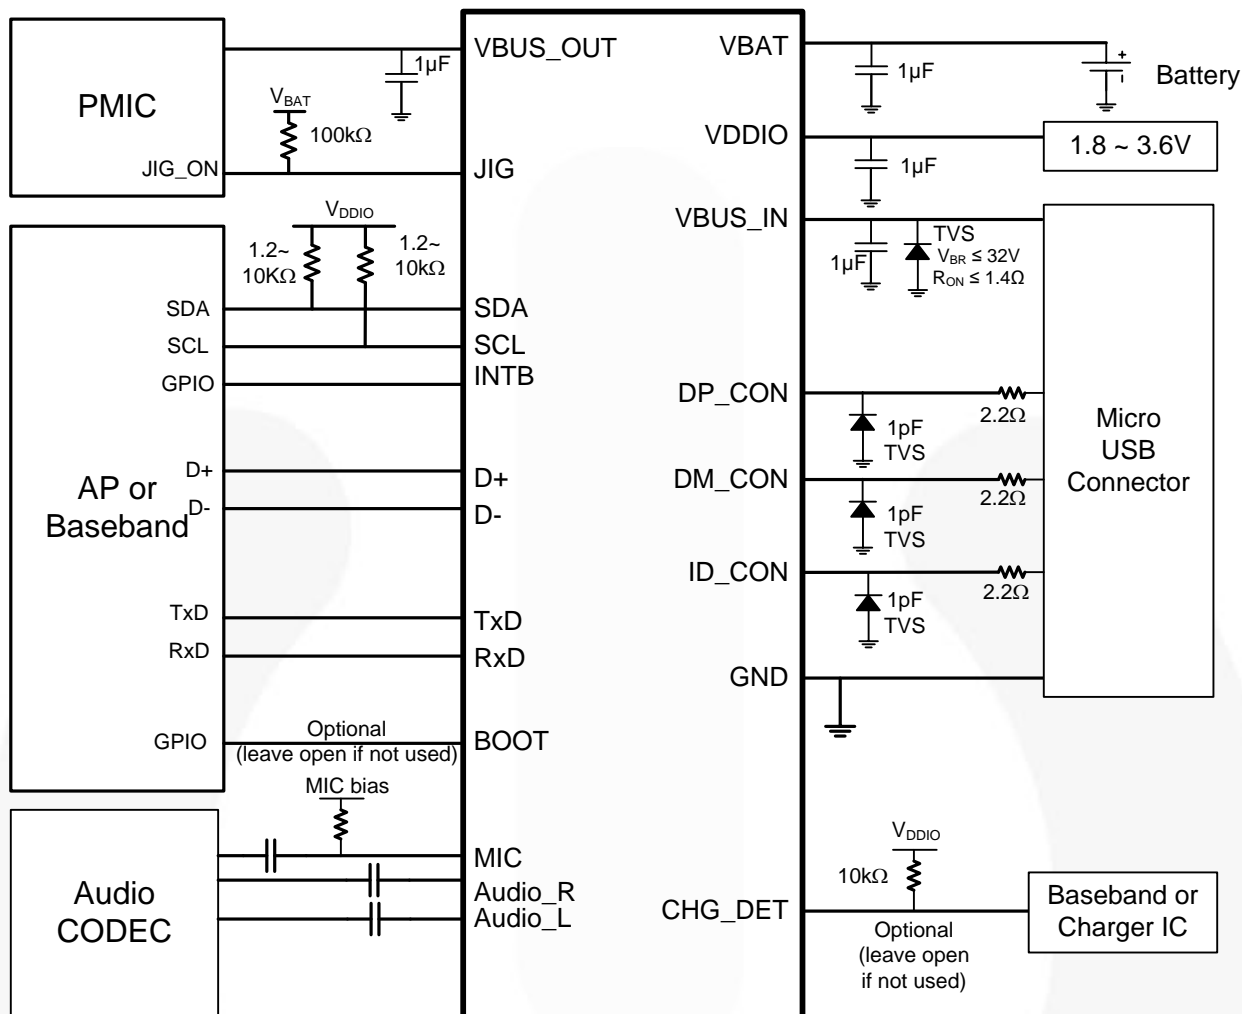

Figure 27. Reference Schematic
- Add as large a decoupling capacitor as possible ($\geq 1\mu\text{F}$) between the V_{BAT} pin and GND to shunt any power supply noise away from the FSA9280A. Also add decoupling capacitance at the PA (see the reference application schematic in Figure 27 for recommended decoupling capacitor values).
- Add 33pF shunt capacitors on any PCB nodes with the potential to collect radiated energy from the phone transmitter. At a minimum, add these 33pF capacitors to the MIC pin (see Figure 27).